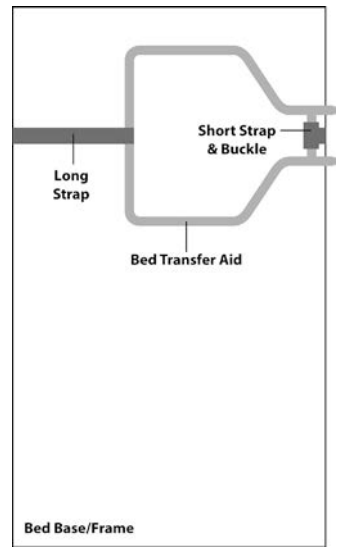

fig. 1
3. Place the Bed Transfer Aid onto the base of the bed with the large flat base on the bed frame and the looped handle facing upwards level with the side of the bed (see fig. 1)